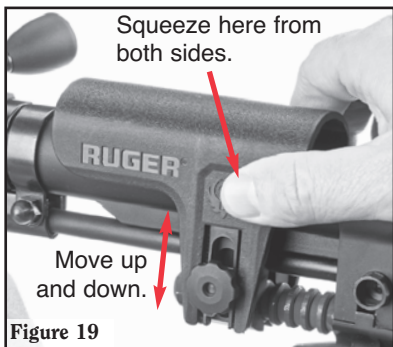

Figure 19
2. Gently squeeze the cheek piece on the Ruger Eagle logo (see Figure 19).
3. Move the cheek piece up or down to the desired height. Each “click” is 1/16 of an inch (see Figure 19).